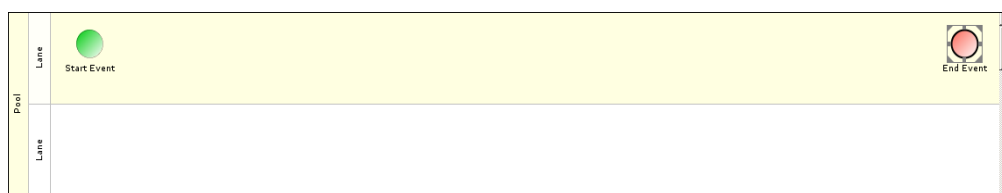

Figure 7: New Swim Lane Added
1. In the Adeptia Modeler applet, click **Lane** () button in the Palette and drag it to the graph canvas. A new lane gets added to the Pool (see Figure 7).